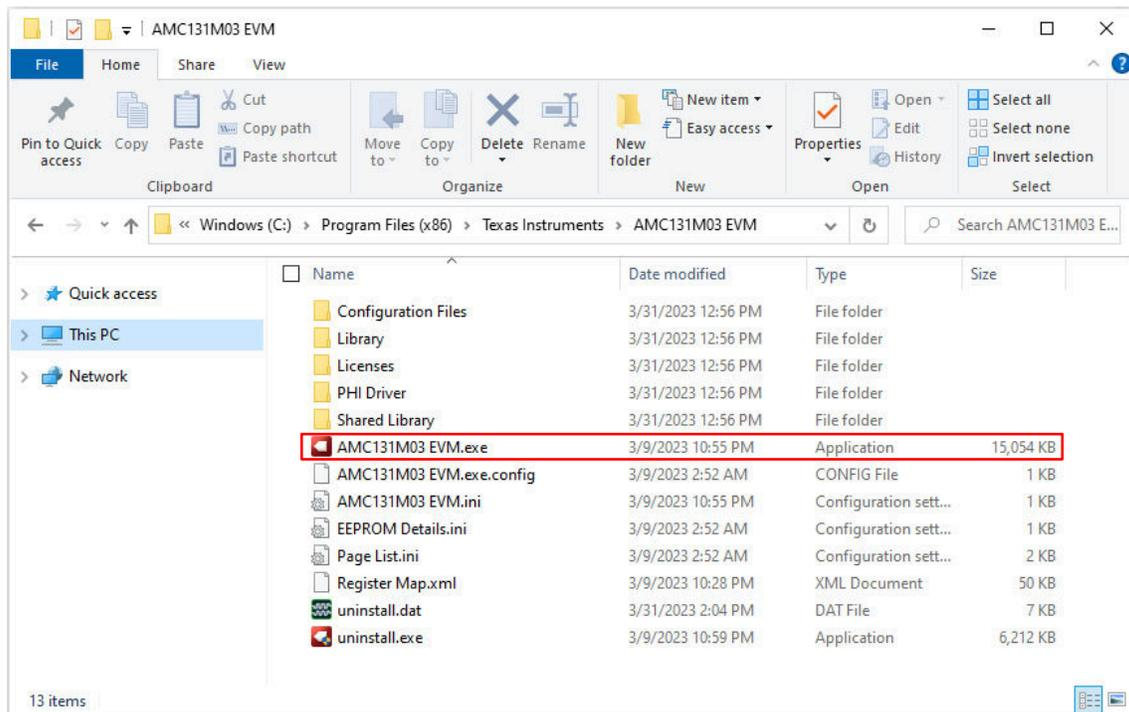

Figure 6-2. Launch the EVM GUI Software
3. Figure 6-2 shows how to launch the AMC131M03EVM GUI software.